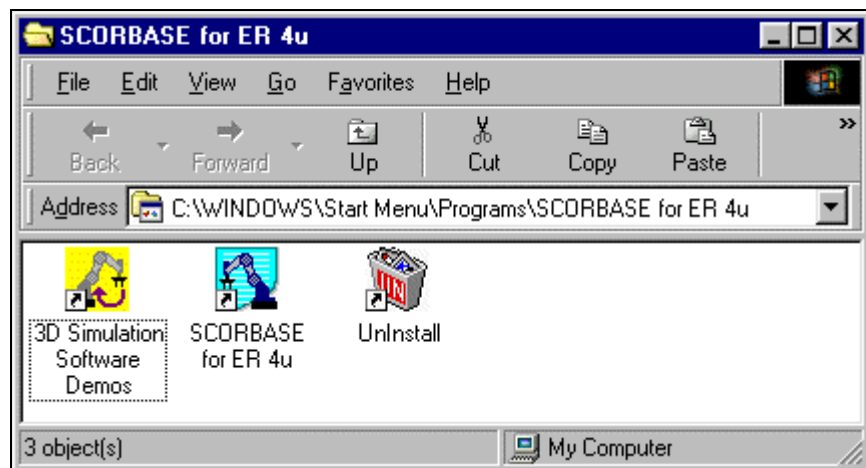

Figure 9
- 6 When installation is complete, a program group window will appear, similar to the one shown in Figure 9.